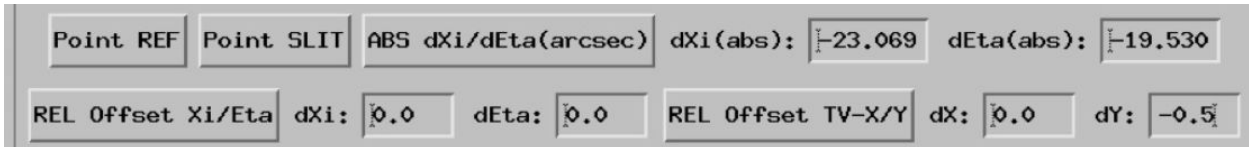

Figure 19. Cut-out section of the slitview GUI showing the offset selections.
- iv. At the idl prompt: type slitviewg'. this launches the slit viewing camera top level control GUI (Figure 19).